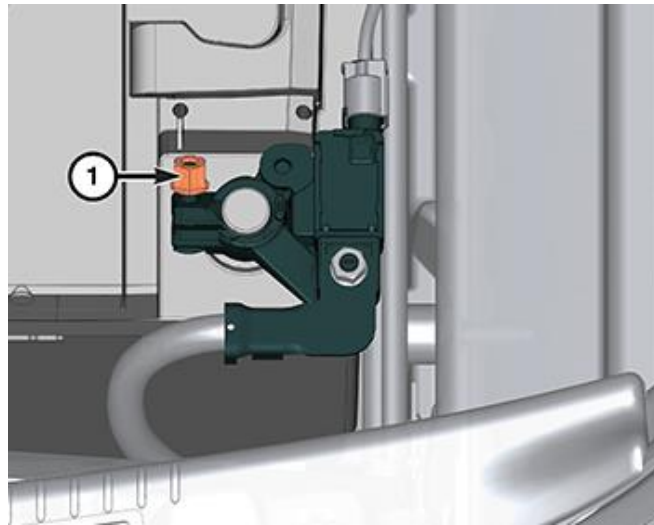

Figure 1 – Battery Negative Terminal Nut
3. Loosen the M6 captive nut (1) securing the battery negative cable clamp to the battery negative post (Figure 1).
27. Tighten the battery negative cable clamp M6 nut (1) to 7 N·m (62 in. lbs.) (Figure 1).